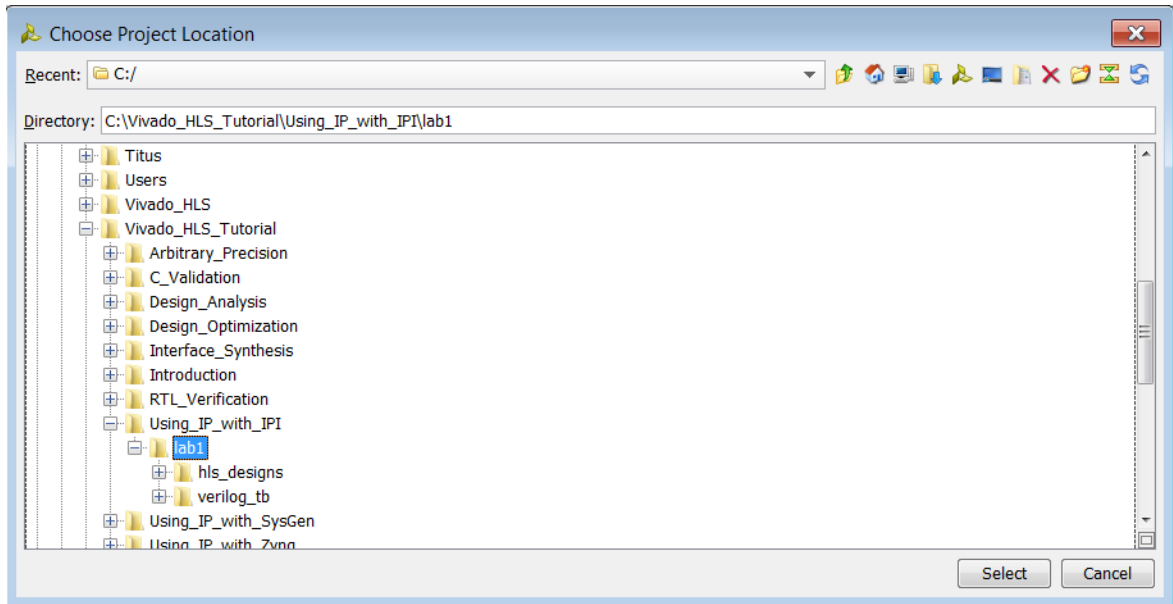

Figure 9-3: Path to the Vivado Design Suite Project
4. Click the ellipsis button to the right of the Project location text entry box and browse to and select the tutorial directory (Figure 9-3).